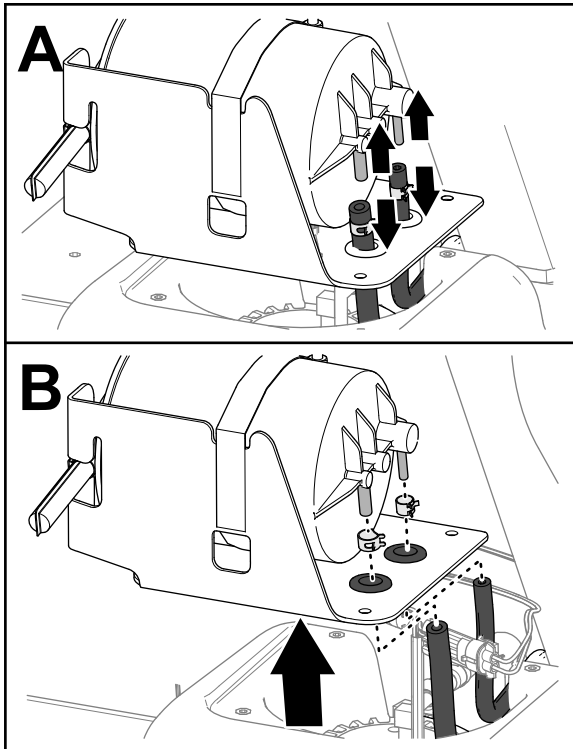

Figure 86
4. Separate the hoses from the fittings (Figure 86).
5. Remove the hose clamps from the hoses (Figure 86).
6. Remove the carbon canister from the fuel tank (Figure 86).